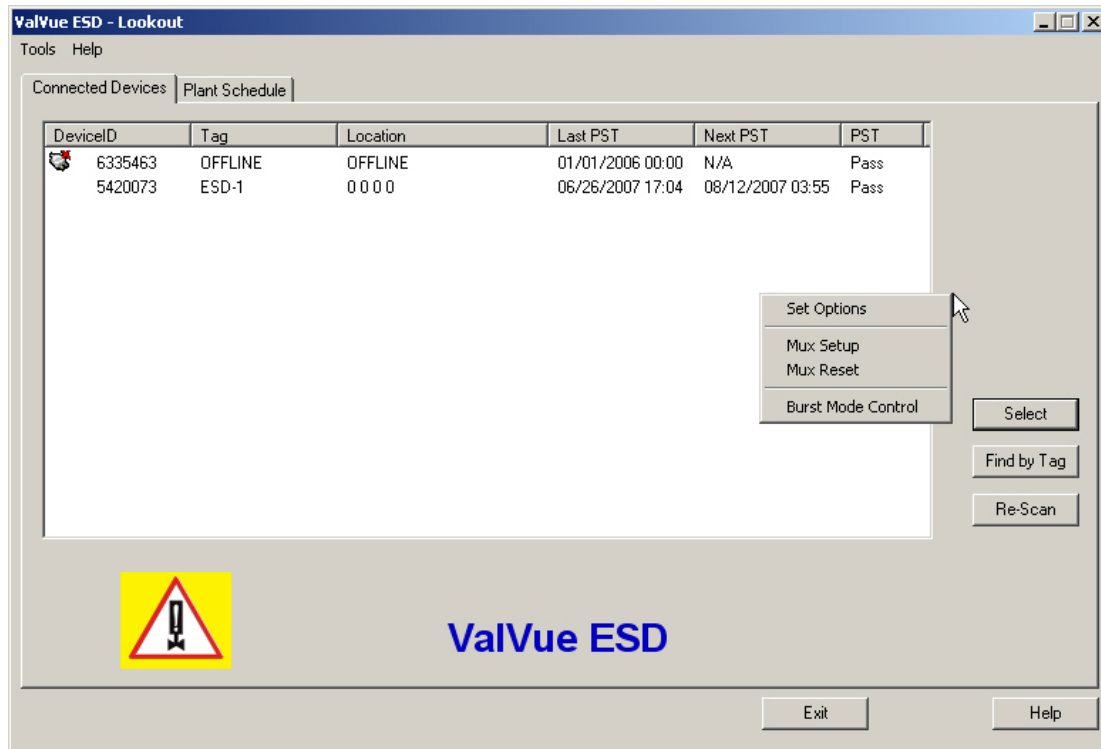

Figure 49 - Context Menu with Mux Functions
2. Right-click on the **Connected Devices** page and select **Mux Setup** (*Figure 49*).